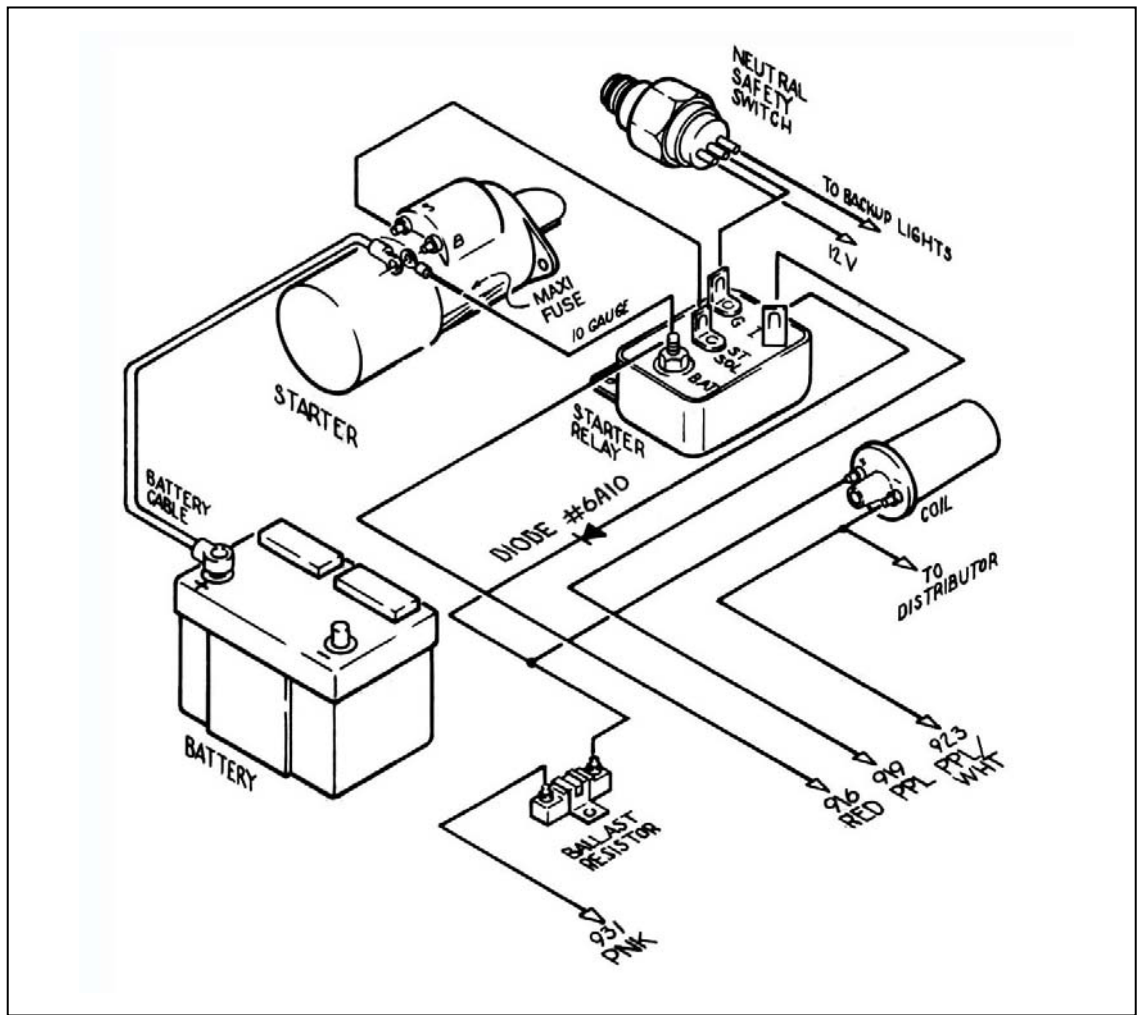

Figure 9-2 Mopar Ignition (Start/Run) System
9.2 Mopar Ignition (Start/Run) System. See Figure 9-2
- 9.2.2** With crimping tool, attach the Maxi Fuse (**Figure 7-3**) onto remaining length of red 10-gauge wire. It serves as a fuse to protect the entire harness. DO NOT OMIT IT! Connect this wire from the Starter Motor Battery terminal, as shown in **Figure 9-2**. USE ONLY 10-GAUGE WIRE.
- 9.2.4** Connect a 14-gauge wire from the Starter Relay Ground (G) terminal to the center terminal of the transmission mounted Neutral Safety Switch. Older Mopar neutral safety switches have only one terminal. On newer switches, the two outside terminals are for backup lights. Use existing wiring to connect these two terminals as shown in **Figure 9-2**.
- 9.2.8** Connect a 14-gauge wire from the Starter Relay Ignition (I) terminal to the ignition coil side of the Ballast Resistor. This wire serves as a ballast resistor BYPASS during engine starting. You must add a diode (8 amp min., 100 PIV) to this wire as shown in **Figure 9-2**. If you are not using a ballast resistor, do not connect this wire.